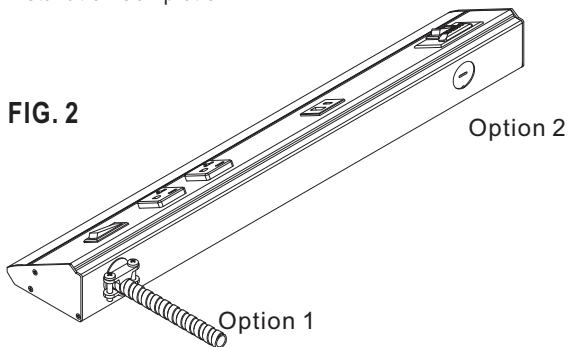

FIG. 2
- Place fixture on a clean flat surface with lens(6) towards you.
- Open cover plate(1) with screwdriver. Seeing FIG. 2.
- Flexible conduit (BX) - A push-on connector (shown) is included for use.